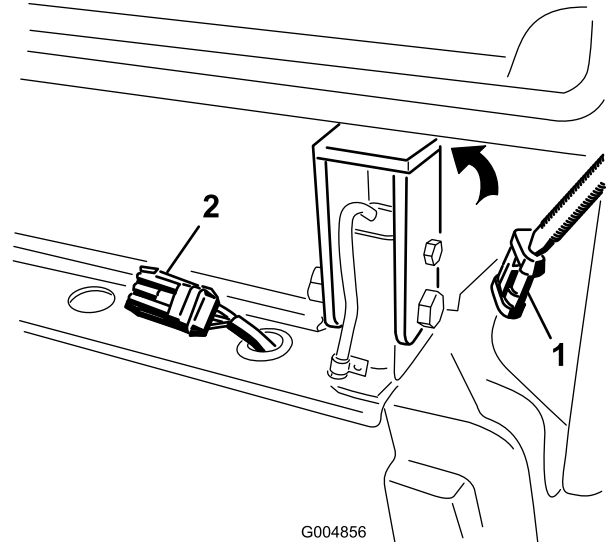

Figure 68
3. Remove the cap and plug the cab wire harness connector into the harness on the rear frame mount (Figure 68).